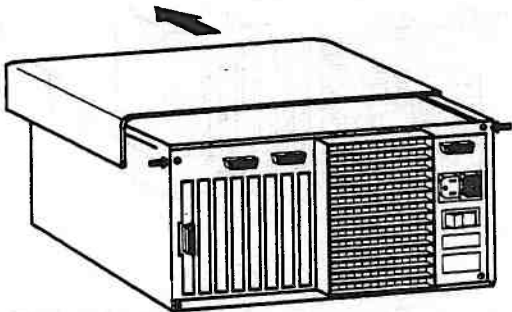

Figure 5-49. Removing the Lower System Module Cover
2. Loosen the two screws from the lower section of the rear panel (Figure 5-49).